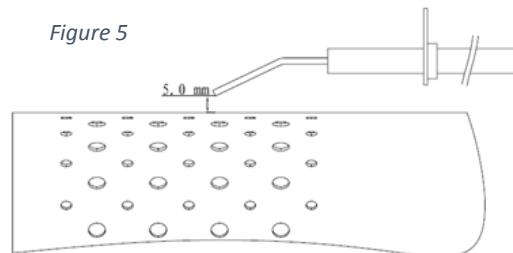

Figure 5
- 6.5.2. Check the starting electrode position (see Figure.5).